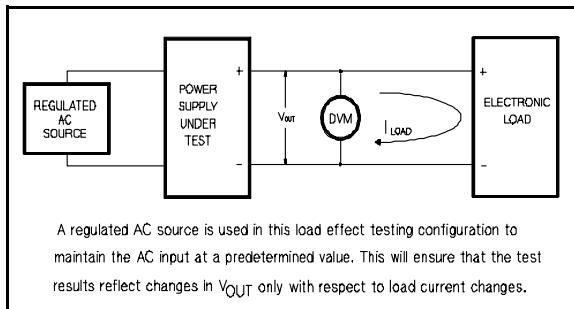

Figure A-6. Basic Test Setup
- a. Connect the test equipment across the output of the +20V supply as shown in Figure A-6. Operate the electronic load in constant current mode and set its current to the full rated value of the +20V supply.
- b. Connect the test equipment across the output of the +20V supply as shown in Figure A-6. Operate the electronic load in constant current mode and set its current to the full rated value of the +20V supply.
- Connect the test equipment across the output of the +20V supply as shown in Figure A-6, but replace the DVM with the oscilloscope. Operate the electronic load in constant current mode.
- a. Connect the test equipment across the output of the +20V supply as shown in Figure A-6.